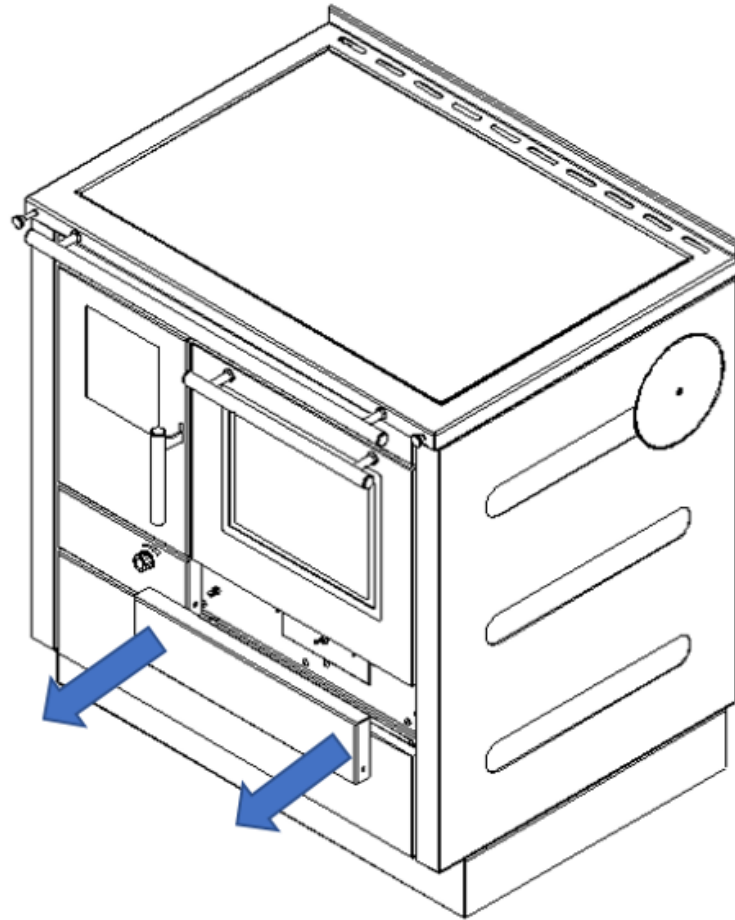

FIGURE 9.
3. Removing the oven door (optional) – Figures 9, 10, and 11.